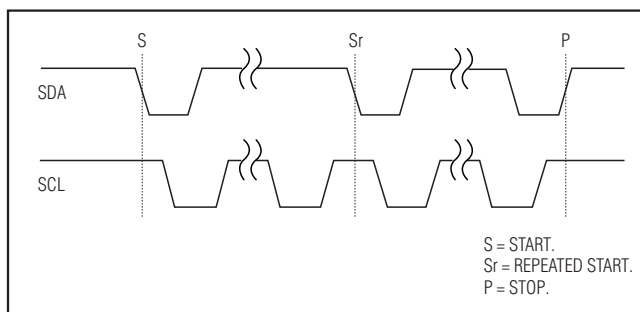

Figure 5. START and STOP Conditions
SCL is high. The master terminates a transmission with a STOP condition (P), which is a low-to-high transition on SDA while SCL is high (see Figure 5). A repeated START condition (Sr) can be used in place of a STOP condition to leave the bus active and the mode unchanged (see the *HS I²C Mode* section).
A write cycle begins with the bus master issuing a START condition followed by 7 address bits (see Figure 5 and Table 1) and a write bit ($R/\bar{W} = 0$). Once the slave address is recognized and the write bit is received, the MAX11008 (I²C slave) issues an ACK by pulling SDA low for one clock cycle. The master then sends the register address byte (command byte) to the
A read cycle begins with the master issuing a START condition followed by a 7-bit address, (see Figure 5 and Table 1) and a write bit ($R/\bar{W} = 0$) to instruct the MAX11008 interface that it is about to receive data. Once the slave address is recognized and the write bit is received, the MAX11008 (I²C slave) issues an ACK by pulling SDA low for one clock cycle. The master then sends the register address byte (command byte) to the slave. The MSB of the register address byte is the read/write bit for the destination register address of the slave and must be set to 1 for a read cycle (see the *Register Address Map* section). After this byte is received, another acknowledge bit is sent to the master from the slave. The master then issues a repeated START (Sr) condition. Following a repeated START (Sr), the master writes the slave address byte again with a read bit ($R/\bar{W} = 1$). After a third acknowledge signal from the slave, the data direction on the SDA bus reverses and the slave writes the 2 data bytes (the